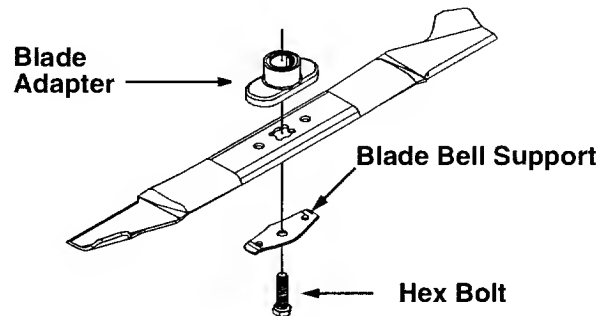

Figure 11
- Remove the bolt and blade bell support which hold the blade and adapter to the engine crankshaft. See Figure 11. Remove the blade and the adapter from the crankshaft.